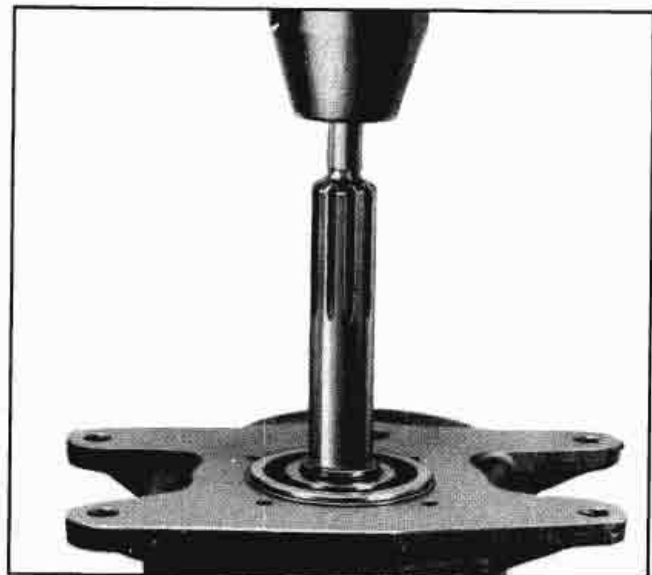

Fig. 7-41 Removal of Clutch Gear Bearing
3. Support rear of case in arbor press and press main drive (clutch) gear shaft from bearing (Fig. 7-41). Tap bearing from case.